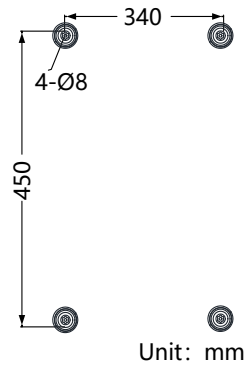

Figure 2-3 Insert Expansion Bolts
- 1) Drill four $\varnothing 8$ screw holes on the wall as shown in Figure 2-3.